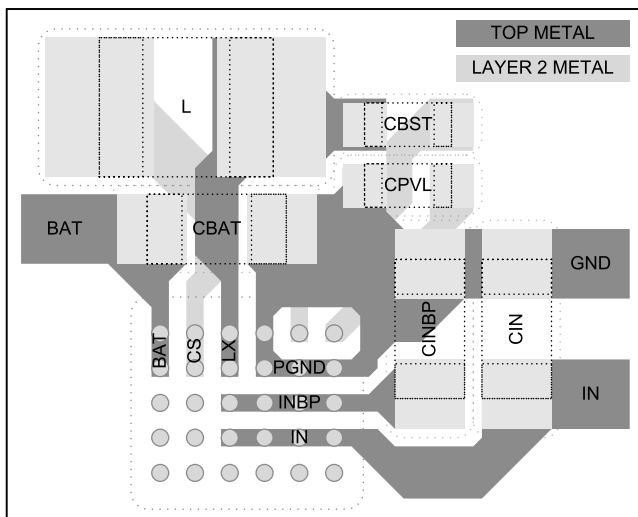
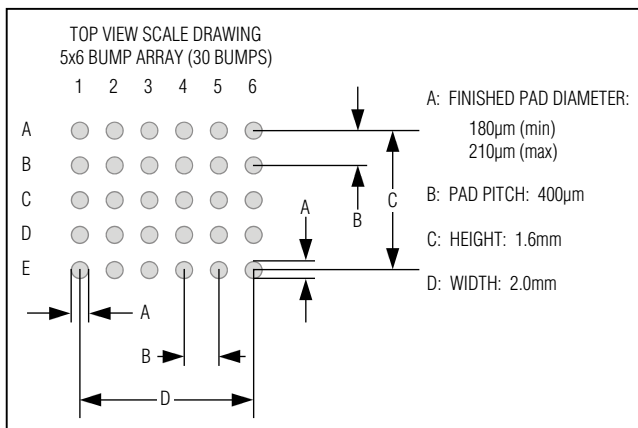
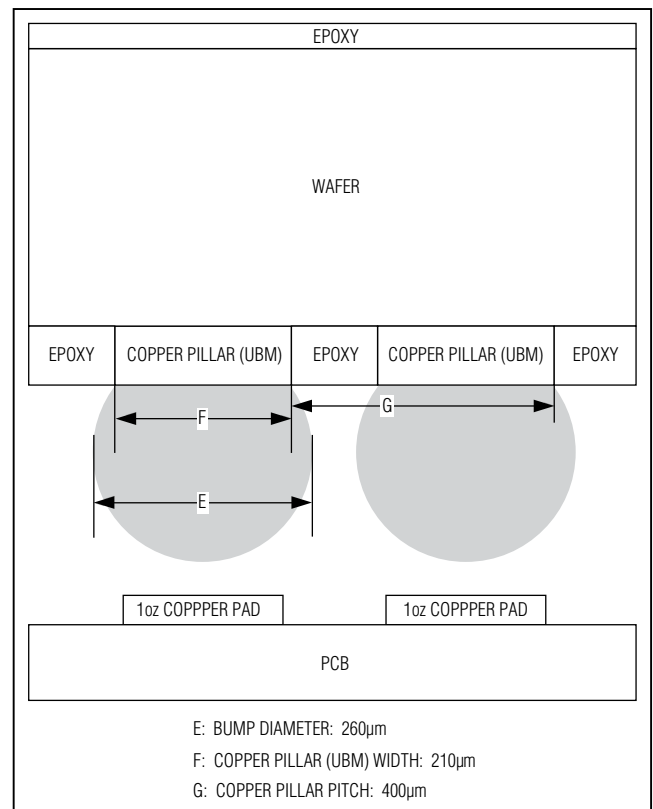
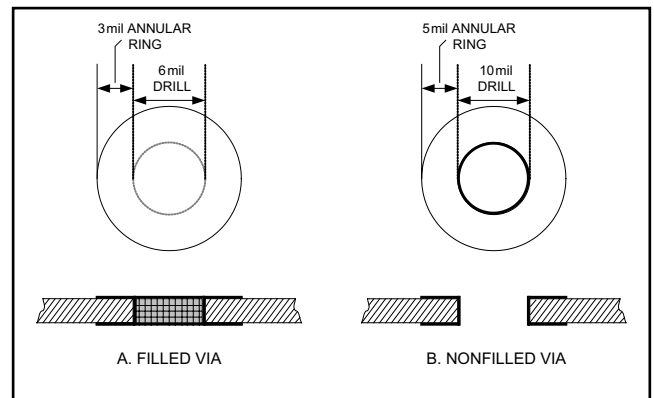

Figure 4. Power PCB Layout Example
Figure 5. Recommended Land Pattern
Figure 6. Bump Cross Section and Copper Pillar Detail
Figure 8. Via Details
The MAX8900\_ wafer-level package (WLP) and bump configuration allows for a small-size, low-cost PCB design. Figure 4 shows that the 30 bumps on the MAX8900\_ WLP are combined into 18 functional nodes. The bump configuration places all like nodes adjacent to each other to minimize the area required for routing. The bump configuration also allows for a layout that does not use any vias within the WLP bump matrix (i.e., no micro vias). To utilize this no-via layout,  $\overline{CEN}$  is left unconnected and the STAT3 pin is not used (2-pin status version). Note that although layouts without micro vias are possible, this EV kit uses filled micro vias that are on the WLP pads of the MAX8900A (A2, A5, A6, B2, C2, D2, and E6). These filled micro vias on pads were used to showcase the small solution size.
Figure 5 shows the recommended land pattern for the MAX8900\_. Figure 6 shows the bump cross section of the MAX8900\_ under-bump metal (UBM). The diameter of each pad in the land pattern is close to the diameter of the UBM. This land pattern to UBM relationship is important to get proper reflow of each solder bump. Note that although layouts without micro vias are possible, this EV kit uses filled micro vias that are on the WLP pads of the MAX8900A (A2, A5, A6, B2, C2, D2, and E6). These filled micro vias on pads were used to showcase the small solution size.
Careful printed circuit layout is important for minimizing ground bounce and noise. Figure 4 is an example layout of the critical power components for the MAX8900\_. The arrangement of the components that are not shown in Figure 4 is less critical. Figures 8–10 show the entire layout of the MAX8900A EV kit and Table 6 shows the EV kit construction attributes. To ensure a successful layout for the MAX8900A, use the following list of guidelines and refer to Application Note 1891: *Wafer-Level Packaging (WLP) and Its Applications*, which is available at [www.maximintegrated.com](http://www.maximintegrated.com).
- 5) In Figure 4, the CS node is connected to the second layer of metal with vias. Use low-impedance vias capable of handling 1.5A of current. Also, keep the routing inductor current path on layer 2 just underneath the inductor current path on layer 1 to minimize impedance.
- 6) Both  $C_{BST}$  and  $C_{PVL}$  deliver current pulses for the MAX8900\_'s MOSFET drivers. These components should be placed as shown in Figure 4 to minimize parasitic impedance.
In Figure 4, many of the top-layer bump pads are connected together in top metal. When connecting bumps together with top-layer metal, the solder mask should define the pads from 180 $\mu$ m to 210 $\mu$ m, as shown in Figure 5. When using solder-mask defined pads, double-
VIA UNDER WLP:	6 mil drill and 3 mil annular ring on top and bottom layers, filled via (Figure 8)
VIA ON REMAINING AREA OF PCB:	10 mil drill and 5 mil annular ring on top and bottom layers (Figure 8)